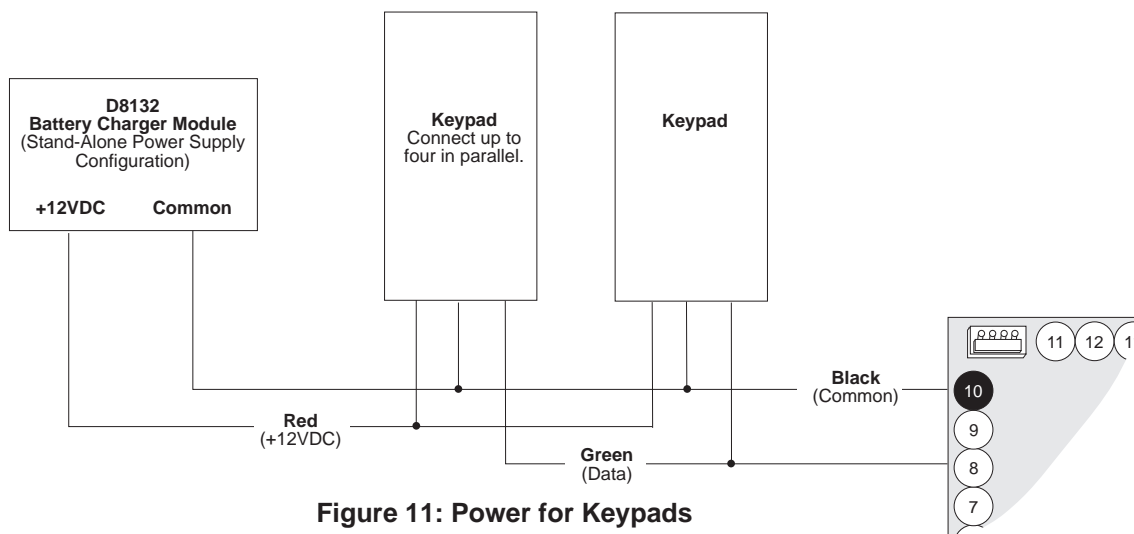

Figure 11: Power for Keypads
You may need to add one or more D8132 Battery Charger/Power Supply Modules for the number of keypads you want to use. Figure 11 shows the D8132 powering keypads in a stand-alone configuration.
**D2112 and D8132 (or other power supply) must share COMMON:** Note that Figure 11 shows the common from the D8132 module connected to both the keypads' common and the terminal 10 on the panel.